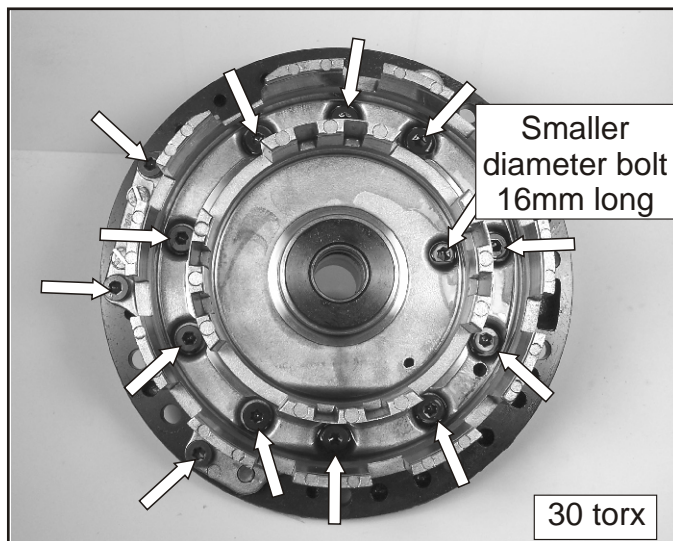

Figure 115
63. Assemble the piston housing / stator shaft thru the pump body over the alignment pins as shown in Figure 115. Using a 30 torx bit, install the thirteen 13mm long retaining bolts and torque to 89-124 in.lb. Torque the 16mm long bolt to 53-62 in.lb.